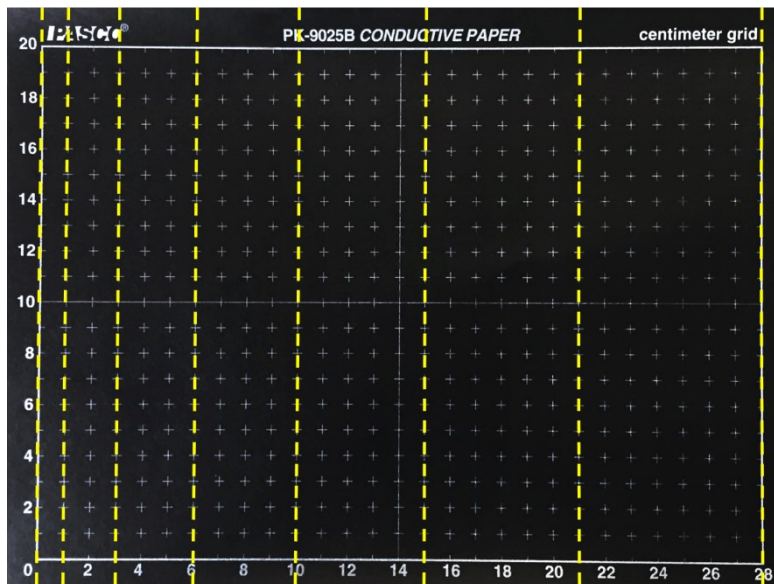

Fig. 8: Cut a sheet of conductive paper into 7 strips with widths of 1, 2, 3, 4, 5, 6, and 7 cm.
1. Cut a sheet of conductive paper into 7 strips (not counting the left and right margins) with widths of 1, 2, 3, 4, 5, 6, and 7 cm (see Fig. 8). Include the top and bottom margins on each strip as shown below.